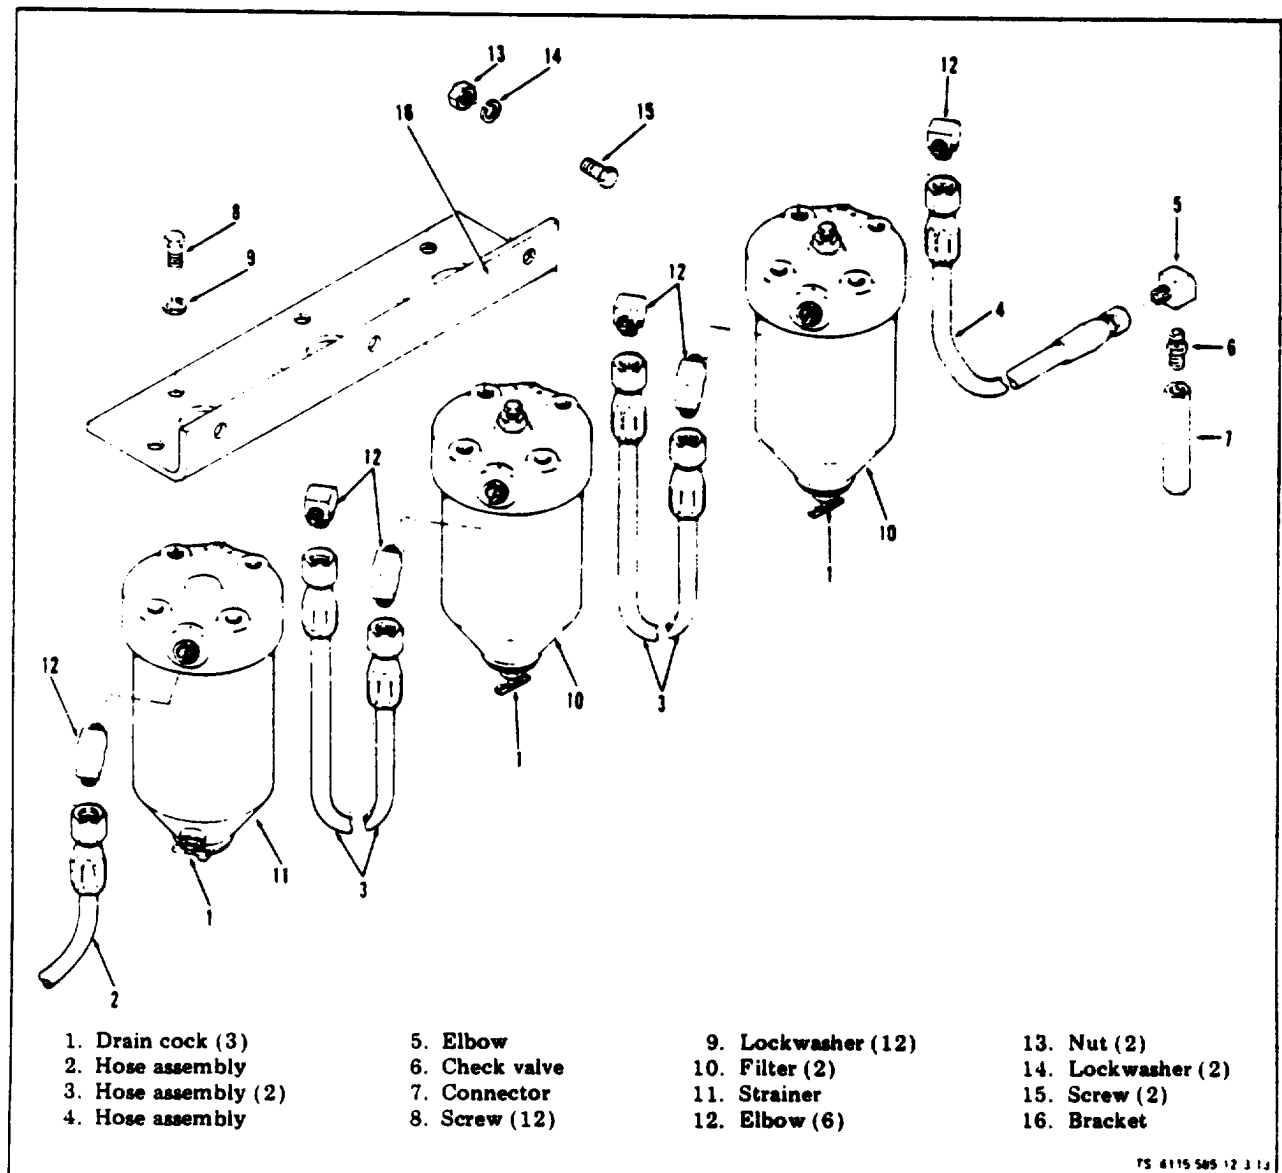

Figure 3-13. Fuel Filters and Fuel Strainer Assembly
(1) Fuel Filter Assemblies (see figure 3-13). On ASK equipped generators, remove FUEL FILTERS access door.
(2) Fuel Strainer Assembly (see figure 3-13). Inspect strainer assembly (11) for dents or other physical damage. Check for leaks especially around fuel line fittings (12), drain (1), or where bowl joins the head. Check that strainer assembly (11) is securely attached to mounting bracket (16).
(4) Fuel Hoses. Inspect fuel hoses (2, 3 and 4, figure 3-13) for leaks or physical damage. Check to see that fuel hose fittings are securely tightened in place.
(1) Fuel Filter Assemblies (see figure 3-13). Daily before and after operation, open drain valves (1) and drain water and sediment from assemblies.
(2) Fuel Strainer Assembly. Daily, before and after operation, open drain valves (1) and drain water and sediment from strainer assembly (11).